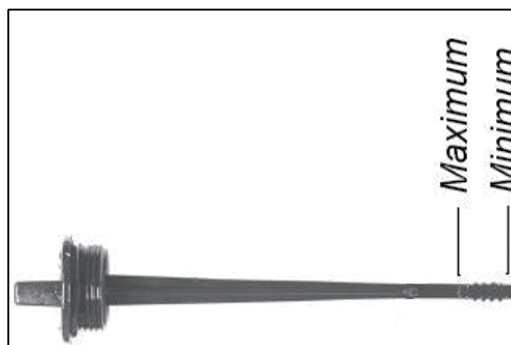

Fig.9
- ☒ Check the oil level. The oil level must be between the **min** and **max** marks on the dipstick. (see fig.9) If near the lower level, fill to upper level.